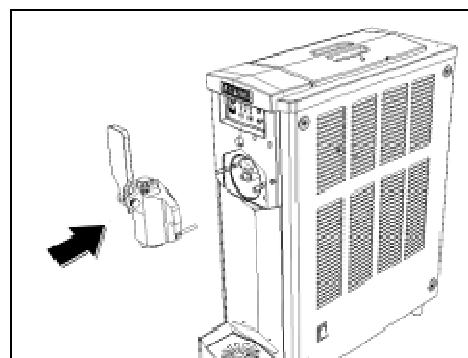

**Fig. 20**
- **A**fter installing the piston seals and lubricating them as necessary (fig. 20), insert the piston into its housing in the flange, mount the dispensing lever together with its spring and connect them with the fixing pin (fig. 20).